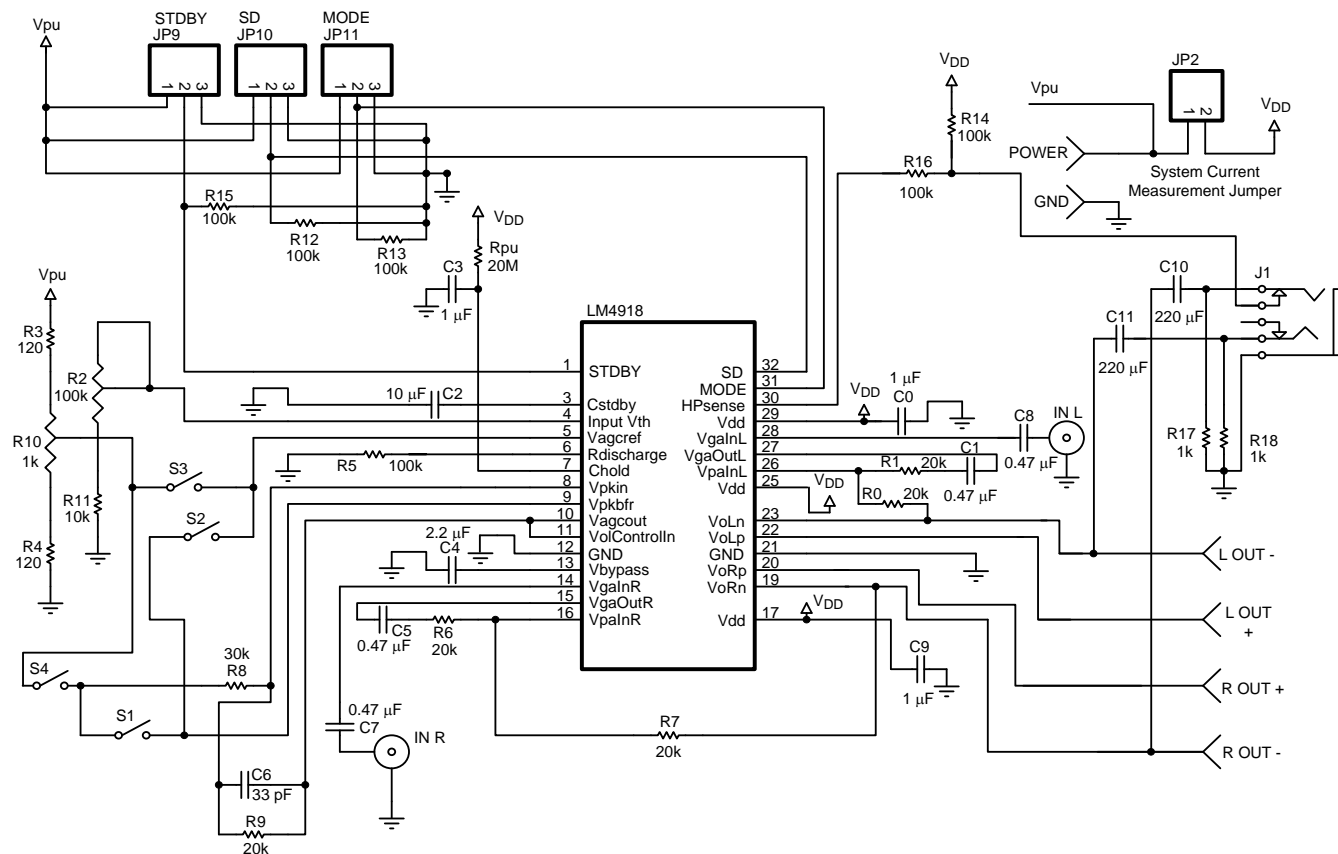

Figure 28. REFERENCE DESIGN BOARD SCHEMATIC
Figure 28 shows the implementation of the LM4918's headphone sense function. With no headphones connected to the headphone jack, the R14-R17 voltage divider sets the voltage applied to the HP Sense pin (pin 30) at approximately 50mV. This 50mV enables the second amplifiers, placing the LM4918 in bridged mode operation. The output coupling capacitor blocks the amplifier's half supply DC voltage, protecting the headphones.
Figure 28 also shows the suggested headphone jack electrical connections. The jack is designed to mate with a three-wire plug. The plug's tip and ring should each carry one of the two stereo output signals, whereas the sleeve should carry the ground return. A headphone jack with one control pin contact is sufficient to drive the HP Sense pin when connecting headphones. A microprocessor or a switch can replace the headphone jack contact pin. When a microprocessor or switch applies a voltage greater than 4V to the HP-IN pin, a bridge-connected speaker is muted and the first set of amplifiers drive a pair of headphones.
The LM4918 also incorporates a peak-detect function to properly monitor output level in conjunction with the AGC. This peak detect function may be set for positive or negative detect, based on the users preference. On the demo board, shown in Figure 28, both circuits are available for testing. The normal, positive peak detect, is engaged by inserting jumpers at S1 and S3, while removing jumpers at S2 and S4. The negative peak circuit is described by jumpers in place on S2 and S4, while removed from S1 and S3. Operating in the negative manner places the Vpk\_Bfr directly to VagcRef, and makes Vpk\_in the effective AGC gain reference voltage. Keep in mind this will reverse the voltage values used for a given AGC gain level as compared to VagcRef values.
Amplifying the lowest audio frequencies requires high value input coupling capacitor (C7 and C8 in Figure 28). A high value capacitor can be expensive and may compromise space efficiency in portable designs. In many cases, however, the speakers used in portable systems, whether internal or external, have little ability to reproduce signals below 150Hz. Applications using speakers with this limited frequency response reap little improvement by using large input capacitor.
As an example when using a speaker with a low frequency limit of 150Hz,  $C_i$ , using Equation 7 is 0.063μF. The 0.49μF  $C_i$  shown in Figure 28 allows the LM4918 to drive high efficiency, full range speaker whose response extends below 20Hz.
Amplifying the lowest audio frequencies also requires the use of a high value output coupling capacitor (C10 and C11 in Figure 28). A high value output capacitor can be expensive and may compromise space efficiency in portable design. The speaker load (R) and the output capacitor (C) form a high pass filter with a low cutoff frequency determined using Equation 7.
When using a typical headphone load of  $R_L = 32\Omega$  with a low frequency limit of 50Hz,  $C_O$  is 99μF. The 200μF  $C_O$  shown in Figure 28 allows the LM4857 to drive a headphone whose frequency response extends below 50Hz.